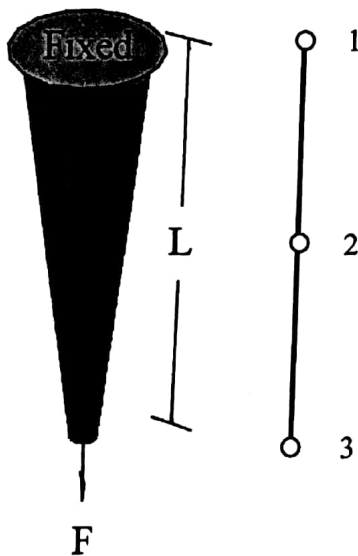

Figure 6
6. (24%) Consider **problem of finding axial displacement** of a truncated solid cone made of concrete, hanging **under its own weight** and subjected to a downward load  $F = 100 \text{ kN}$  at the tip, as illustrated in Figure 6 below. Let the length  $L = 5 \text{ m}$ , the diameter at the top is  $d_0 = 1 \text{ m}$  and changes linearly to  $d_L = \frac{1}{4} \text{ m}$  at the bottom. The concrete weighs  $24 \text{ kN/m}^3$  and its modulus is  $E = 2 \times 10^7 \text{ kN/m}^2$ .